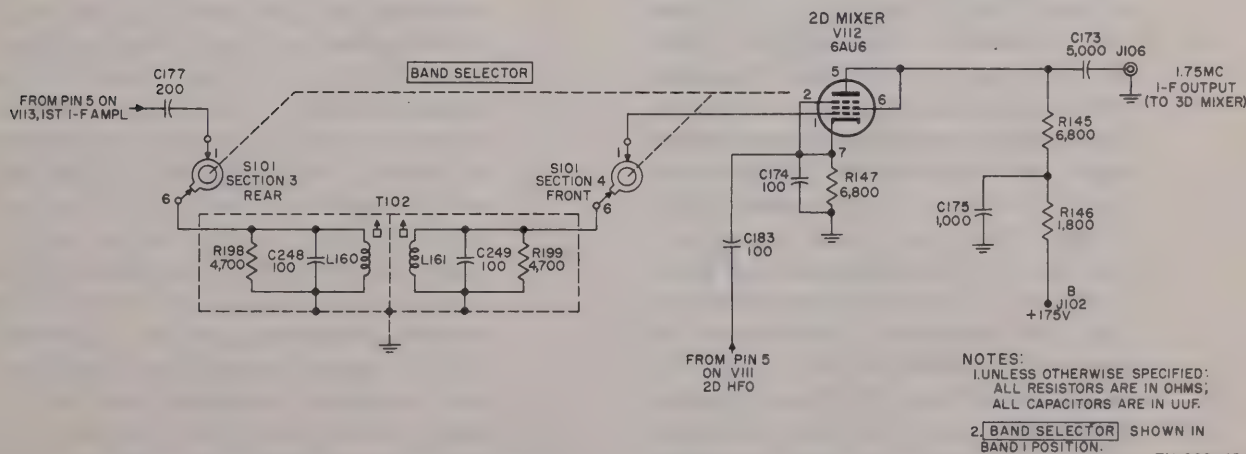

Figure 30. Second mixer.
63. Second Hf Oscillator and Second Mixer (figs. 30, 31, and 32)
d. Second Mixer Operation and Output Circuit (fig. 30). The output of the crystal circuit is ap-